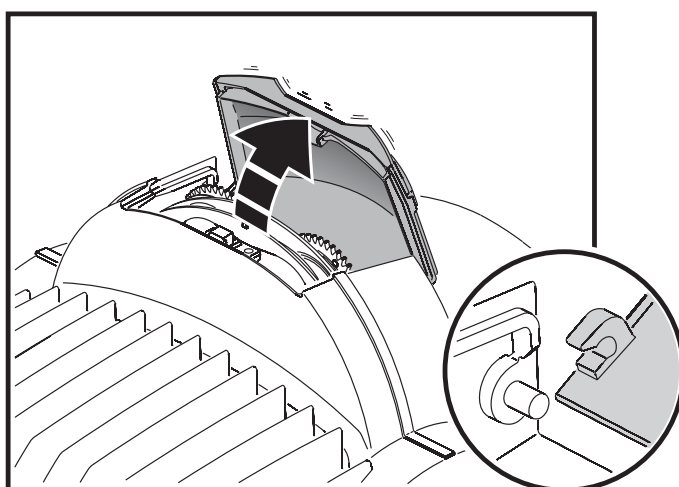

Figure 9: Effects access hatch
The MAC 350 Entour effects hatch (see Figure 9) gives instant access to gobos and color filters.
2. See Figure 9. Flip the effects access hatch open.